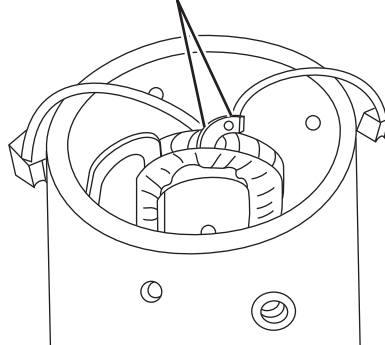

Figure 1
7. Remove and discard the positive brush set with stud. Cut the negative brush leads off at the field winding tab and discard brushes. **(See Figure 1.)**